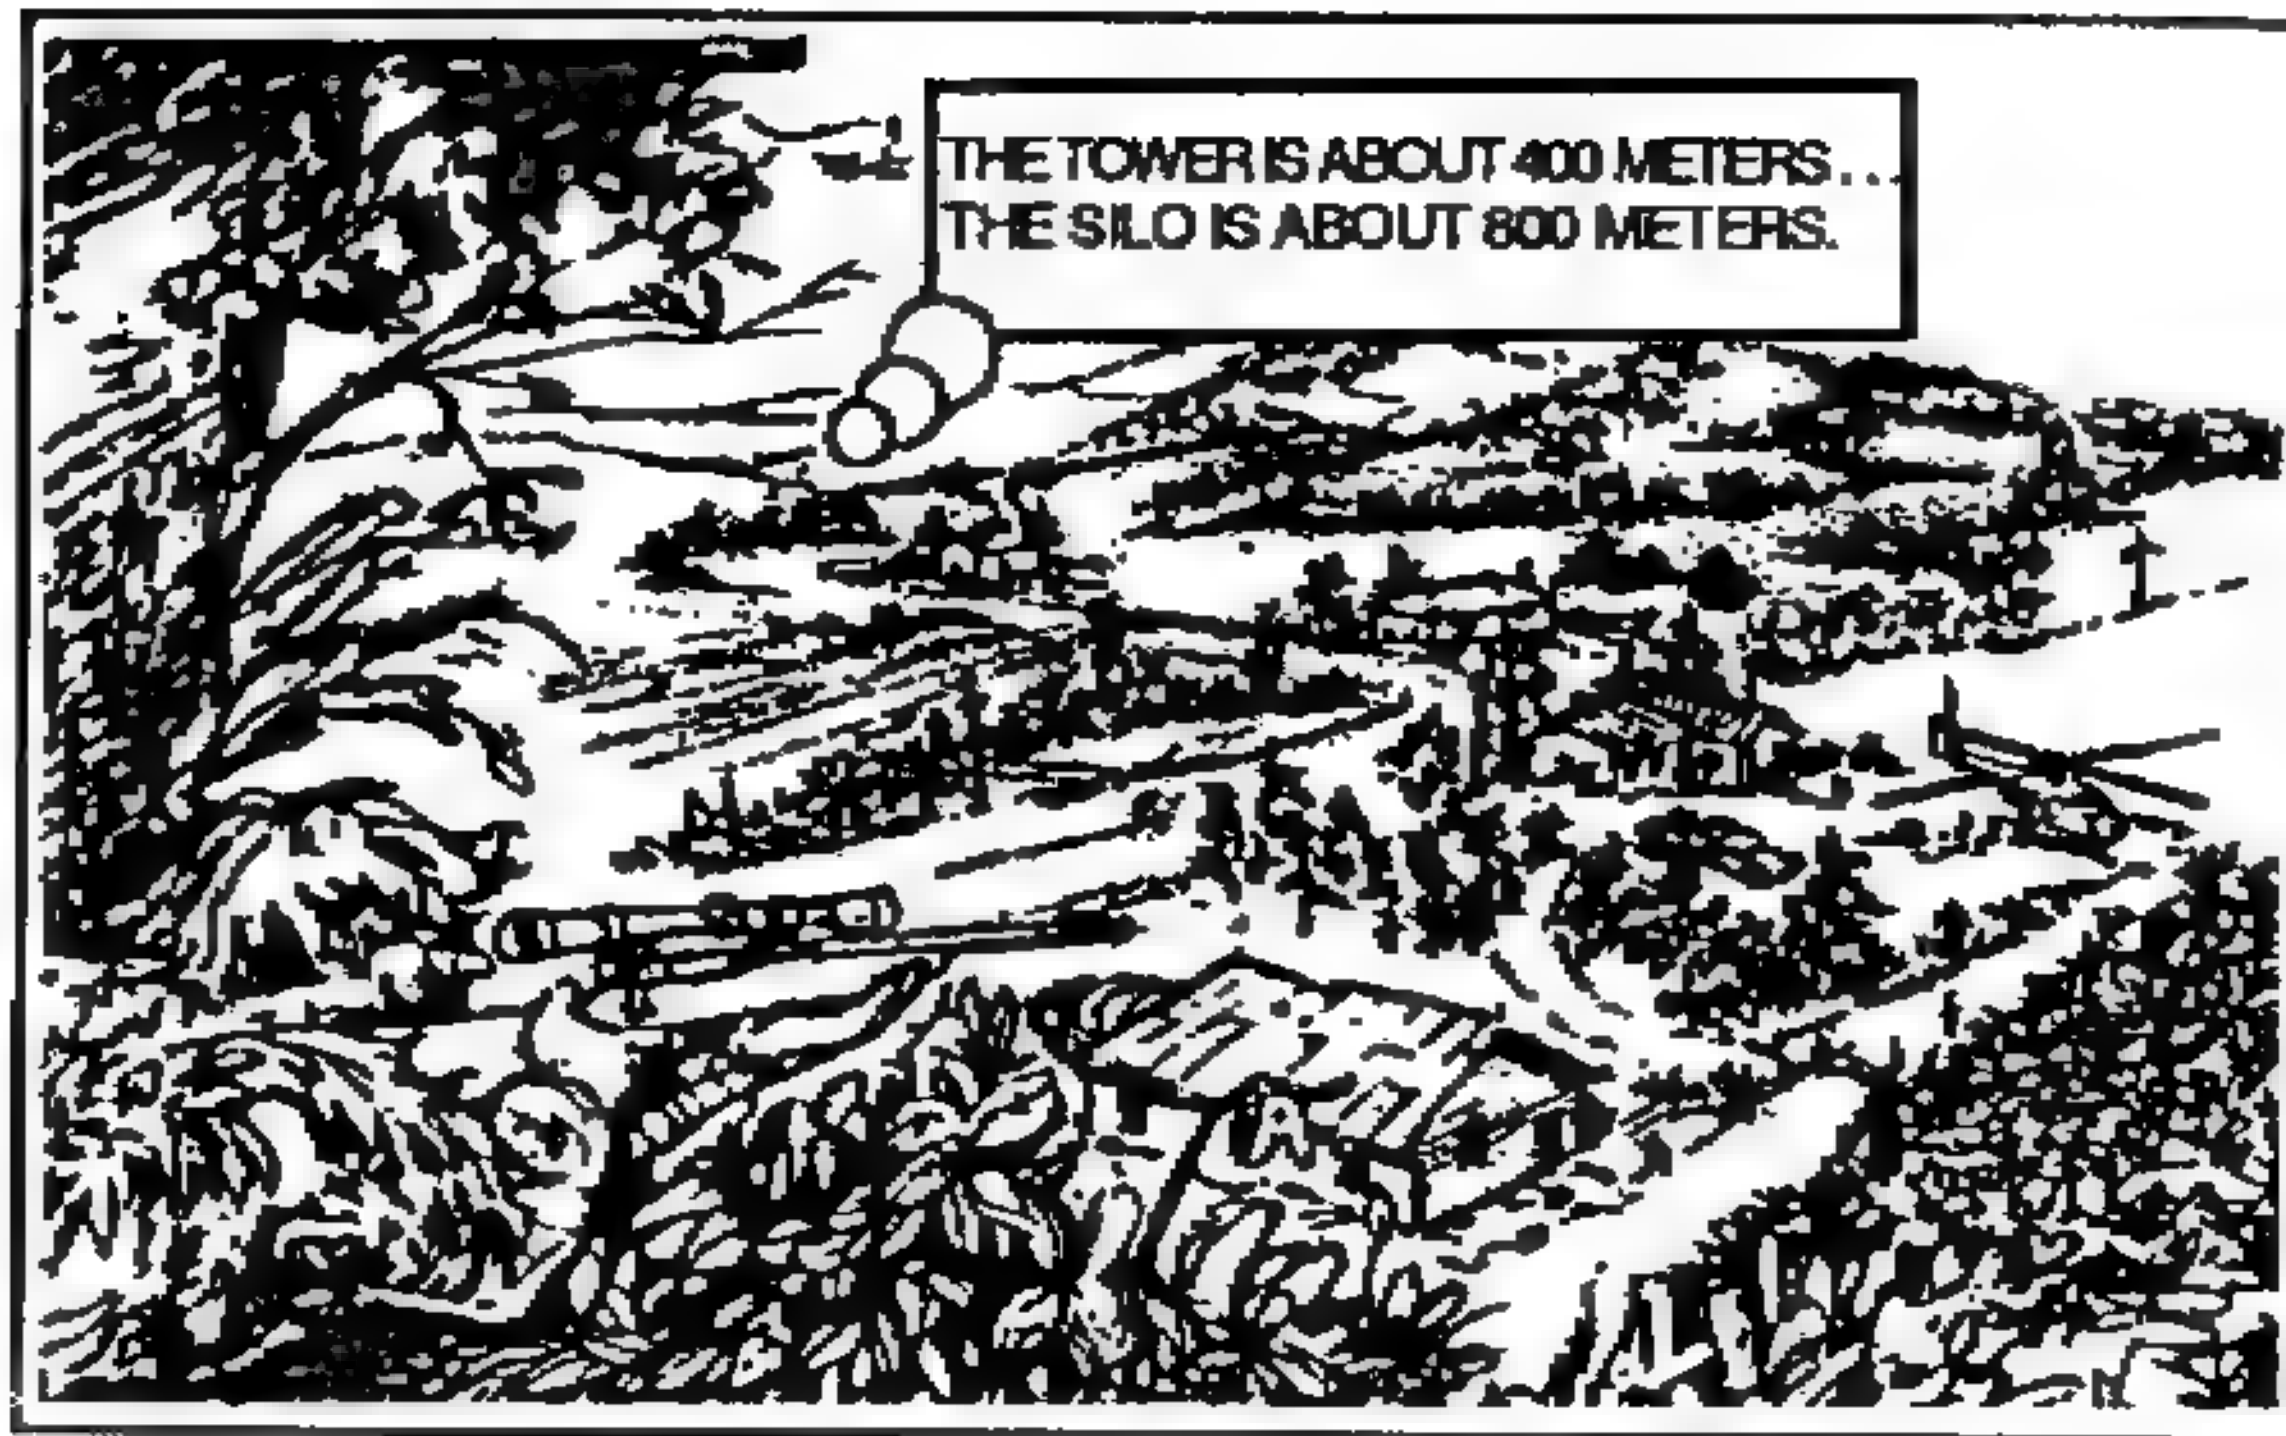

Figure 4-18. 100-meter-unit-of-measure method.
b. 100-Meter-Unit-of-Measure Method. To use this method (Figure 4-18, page 4-38), the sniper team must be able to visualize a distance of 100 meters on the ground. For ranges up to 500 meters, the team determines the number of 100-meter increments between the two objects it wishes to measure. Beyond 500 meters, it must select a point